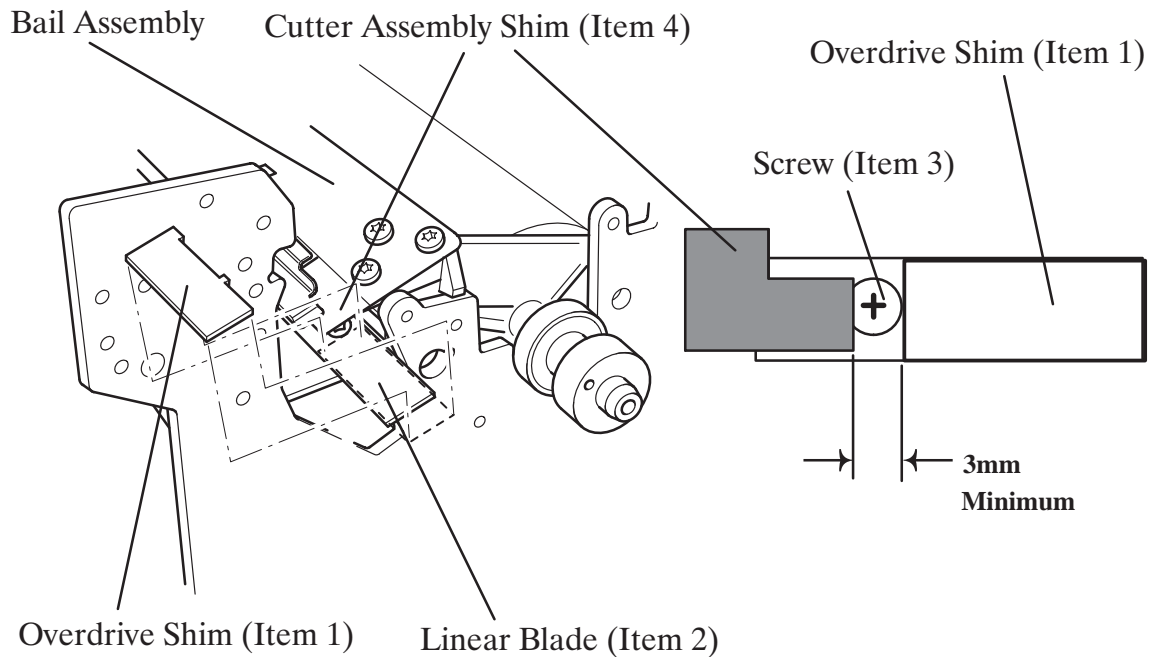

**Figure 25C: Media Button Cable Routing
Make sure you disconnect the Media Button Cable from the Service Station Interconnect PCA (See Figure 25C ♦ page 8-76).
If it is not correctly positioned, it will get trapped between the Overdrive Assembly and the chassis and will become damaged. Also make sure that the Media Button is routed correctly as shown on Figure 25C ▶ page 8-76.
3. Install the four T-10 screws (item 8) (two on each side) securing the overdrive assembly (item 9) to the left and right hand side chassis.
4. Install the clutch (item 4) and two washers (item 5) on the left end of the overdrive shaft, then secure with the retaining clip (item 3).
5. While pressing down on the roller support bracket, install two T-15 screws (item 1) securing the roller support bracket to the chassis.
6. Connect the Media Button Cable to the Service Station Interconnect PCA (See Figure 25C ▶ page 8-76).